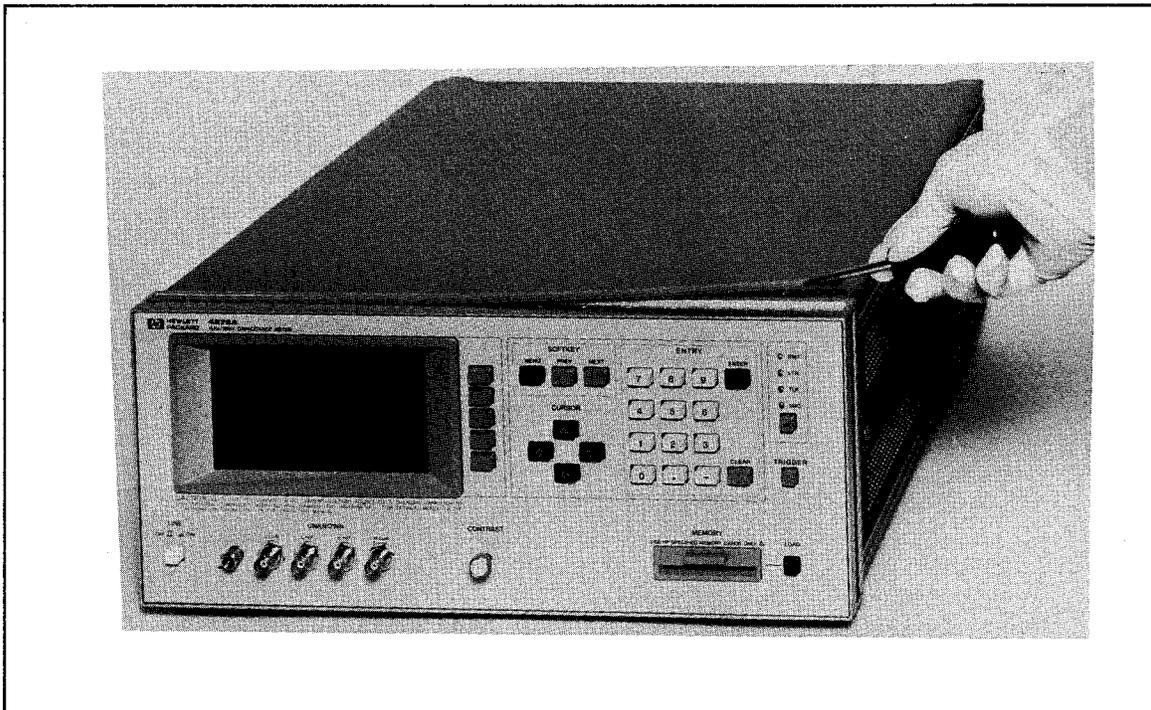

Figure 4-2. Top Trim Removal
1. Remove the top trim from the top of the front frame as shown in Figure 4-2.